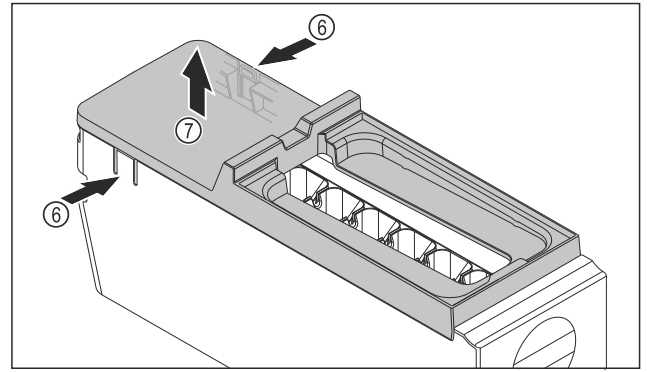

Fig. 80
- ▶ Removing the EasyTwist-Ice body cover: Push the tabs Fig. 80 (6) on both sides of the EasyTwist-Ice body with one hand.
- ▶ Use the other hand to remove the cover Fig. 80 (7) upwards.